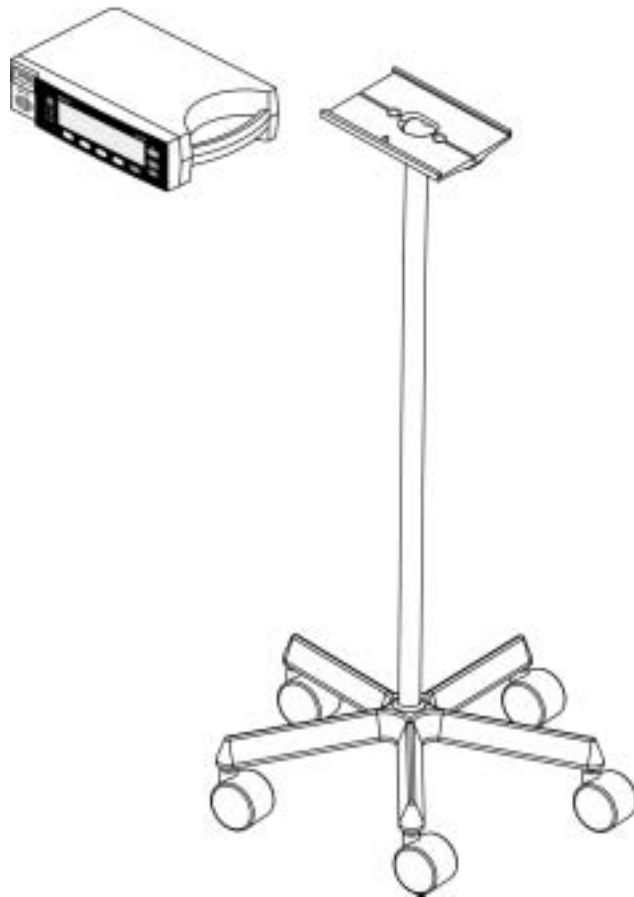

Figure 10: GCX Poly-mount Roll Stand
- GCX Poly-mount Roll Stand. See Figure 10 on page 108.
The GCX poly-mount roll stand attaches to the N-595 GCX mounting plate as shown in Figure 10 on page 108. For further instructions regarding connecting the GCX poly-mount roll stand, refer to the illustrated directions for use included with the GCX poly-mount roll stand.